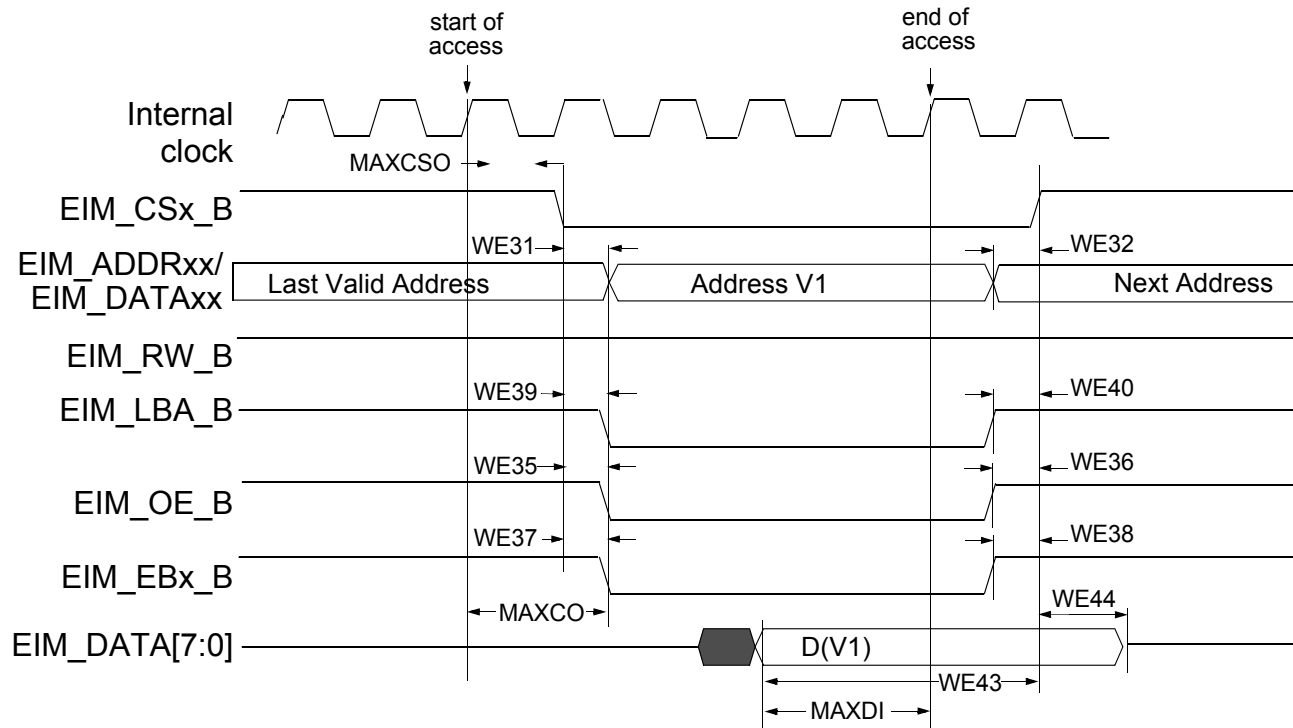
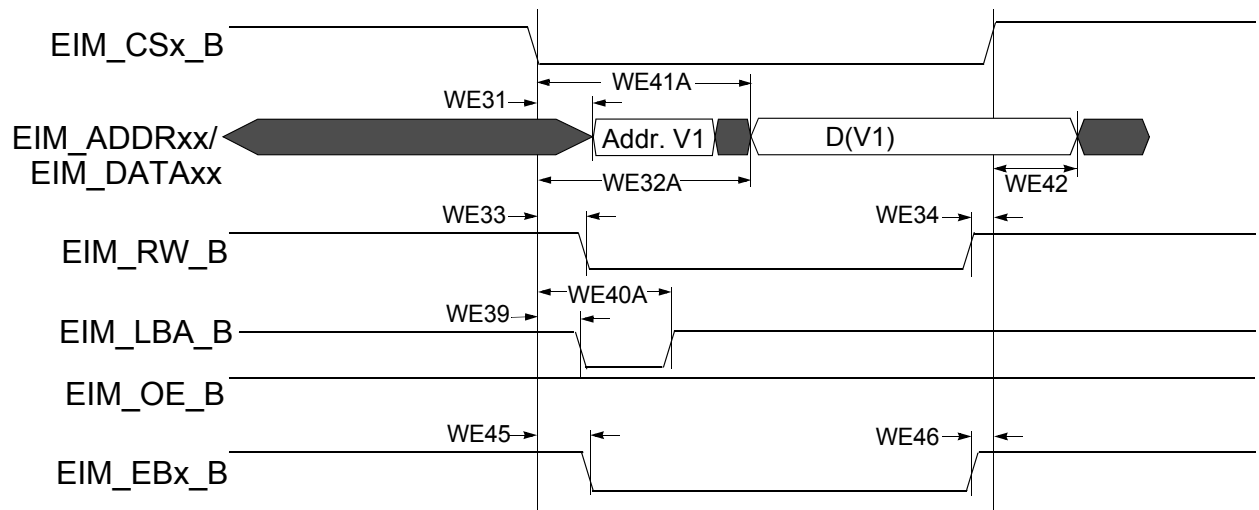
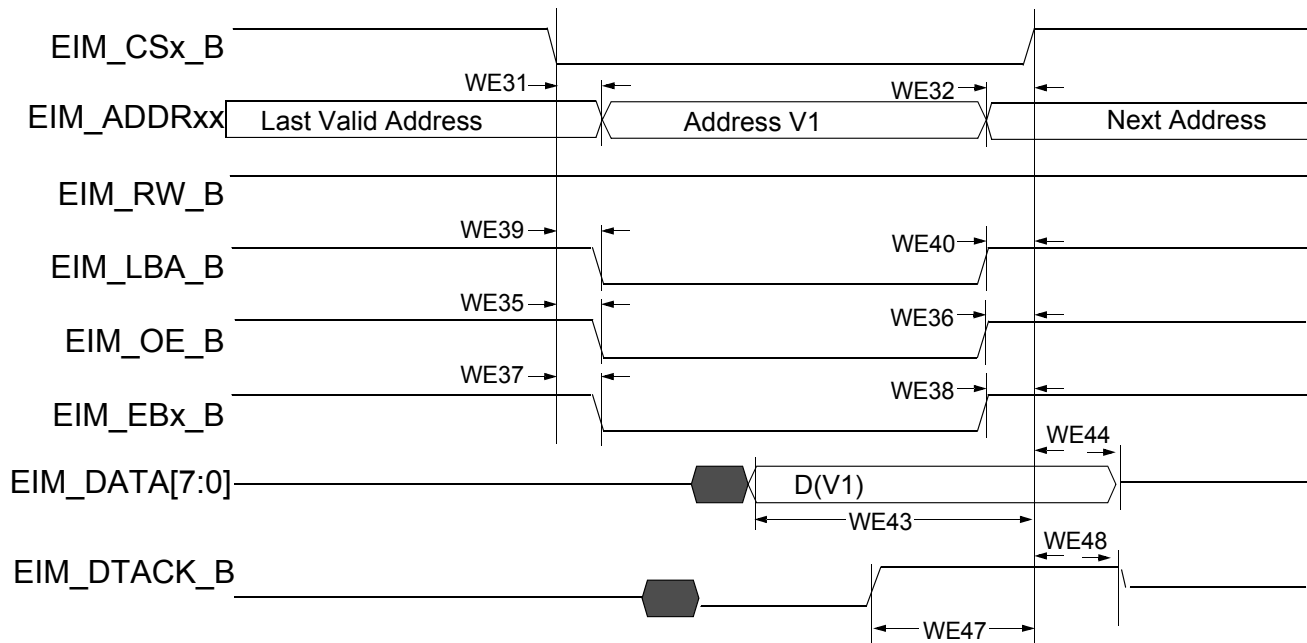

Figure 16. Asynchronous Memory Read Access (RWSC = 5)
Figure 19. Asynchronous A/D Muxed Write Access
Figure 20. DTACK Read Access (DAP=0)
Figure 16 through Figure 20, and Table 38 help you determine timing parameters relative to the chip select (CS) state for asynchronous and DTACK EIM accesses with corresponding EIM bit fields and the timing parameters mentioned above.
Asynchronous read and write access length in cycles may vary from what is shown in Figure 16 through Figure 19 as RWSC, OEN & CSN is configured differently. See the i.MX 6SoloLite reference manual for the EIM programming model.